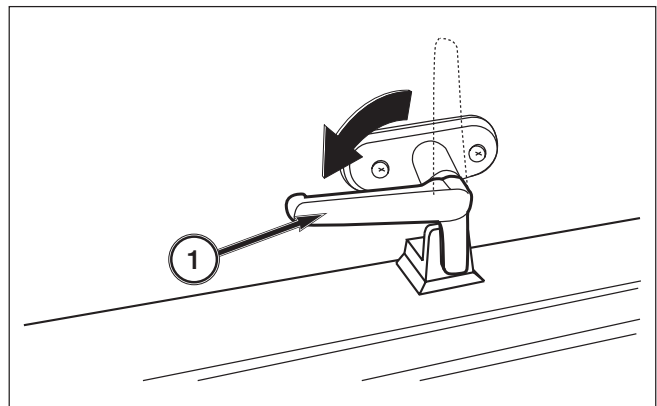

FIG. 5-99
FIG. 5-99: To close the rear window, pull toward you with the handle in the unlock position until the window can be locked securely. Then turn the handle 90 degrees counterclockwise(1) to lock the window.